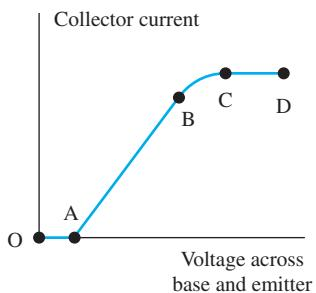

FIGURE P8.36 Collector current and the base-emitter voltage curve.
- 8.36** (B) Figure P8.36 shows the relationship between the collector current and the base-emitter voltage of a transistor. Provide the name of each region, OA, AB, BC, and CD.